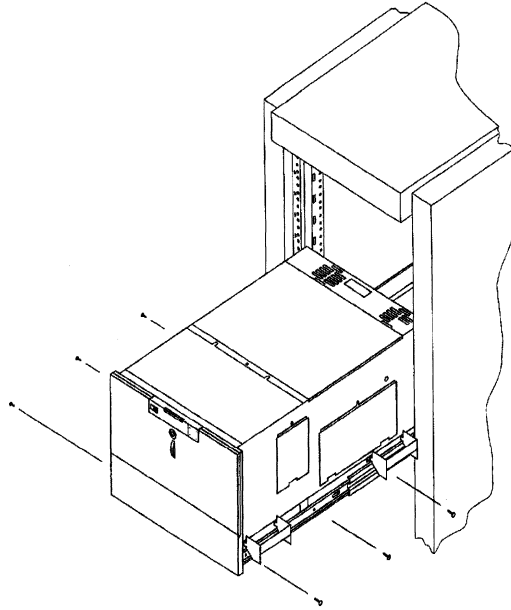

Figure 5-7. Removing the Library Rackmount Screws
4. Remove the three 8-32 x 3/8 Phillips screws holding the library chassis to the rails on each side. See Figure 5-7.